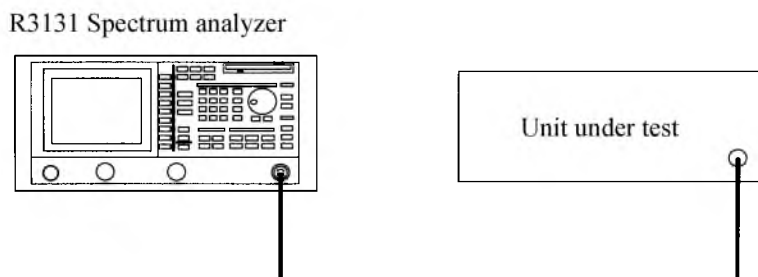

Figure 2-73 Setup for the Pass-Fail judgment
1. Connect the unit under test as shown in Figure 2-73.